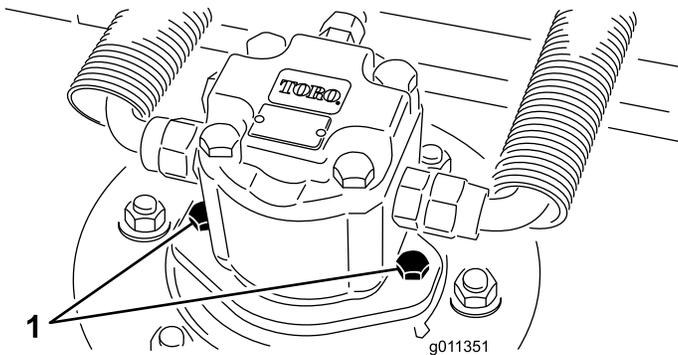

Figure 53
2. Disconnect and remove the hydraulic motor from the deck (Figure 53). Cover the top of the spindle to prevent contamination.
4. Install the hydraulic motor to the deck (Figure 53). Make sure that the O-ring is in position and not damaged.